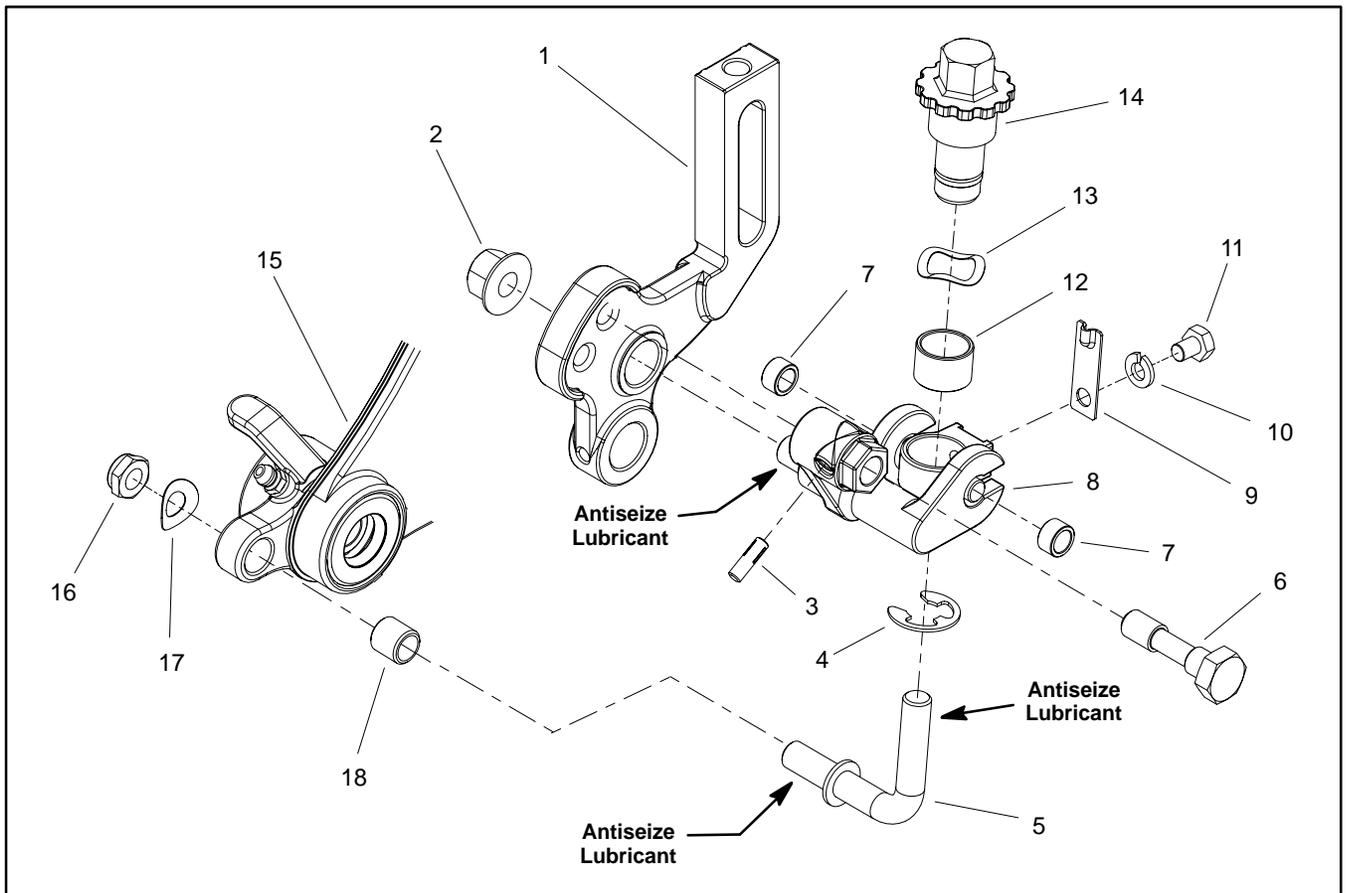

Figure 18
1. Remove flange nut (item 2) that secures lift arm to HOC groomer arm. Remove lock nut (item 16) and spring washer (item 17) that secure lift arm to side plate. Loosen lock screw (item 6) completely.
3. Disassemble lift arm using Figure 18 as a guide.
Note: Right and left side HOC groomer arms (item 1) and lift arm assemblies (item 8) are different; other components shown in Figure 18 are the same on both sides of cutting unit.
1. Assemble lift arm using Figure 18 as a guide.
2. Apply antiseize lubricant to threads of groomer lift rod (item 5) and lift arm assembly stud (item 8).
3. Install lift arm onto cutting unit. Secure with flange nut (item 2) and lock nut (item 16) with spring washer (item 17).
4. Secure groomer in raised or lowered position with lock screw (item 6).